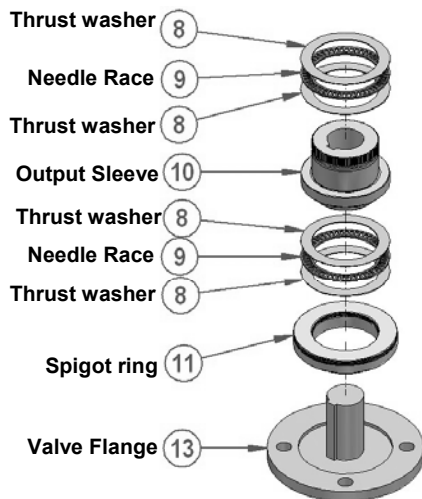

Fig. 7 Valve Stem Assembly
It is recommended that the machined output sleeve assembly is assembled on the valve stem/shaft first and then the actuator-gearbox combination lowered to locate on the output sleeve assembly. See Fig. 7 and 8 for assembly details
- 1) Fit the machined output sleeve (10), thrust bearings (8 & 9) and baseplate spigot ring (11) on the valve shaft as shown in the Fig.7 below. Bearings should be greased with the appropriate grease. Grease the output sleeve and valve stem/shaft. Note that the spigot ring has an internal and external seal that should also be greased.
- 3) For valves with keyed shafts (non-rising as shown in Fig. 7 and 8), align base mounting holes and secure using screws or studs with a minimum tensile strength of 800 N/mm². For valves with screwed stems (rising stem), rotate the handwheel to ensure gearbox assembly is fully screwed down on to the valve flange. Continue to turn to partially open the valve. Align mounting base holes and secure using screws or studs with a minimum tensile strength of 800 N/mm². Firmly tighten down fixings onto the valve flange to the torque required. See Table B on page 9.